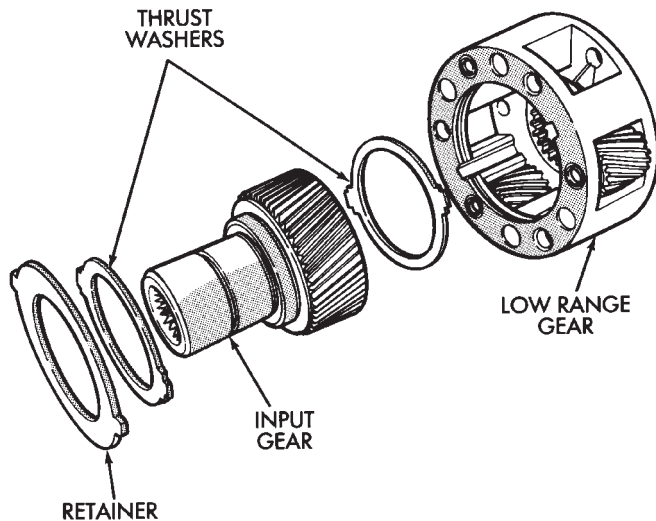

Fig. 44 Low Range And Input Gear Assembly
(11) Assemble low range gear, input gear thrust washers, input gear and input gear retainer (Fig. 44).